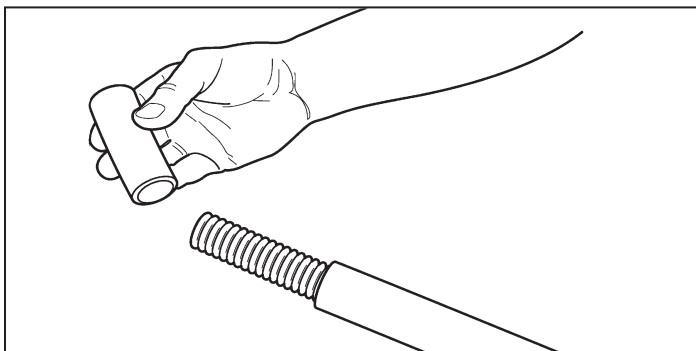

Figure: 4-56
- Using a twisting motion, remove the black sleeve from the pipe. It may be necessary to cut sleeves longitudinally and peel off for larger sizes. Inspect stainless pipe for scoring from the tubing cutter (Figure 4-56).